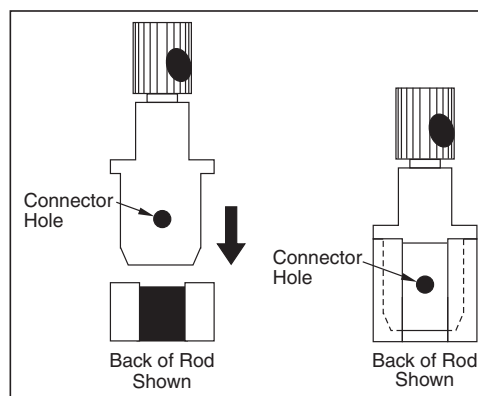

Figure 4
3. Seat adjustable rod connector as shown in cut end of rod. (Figure 4)